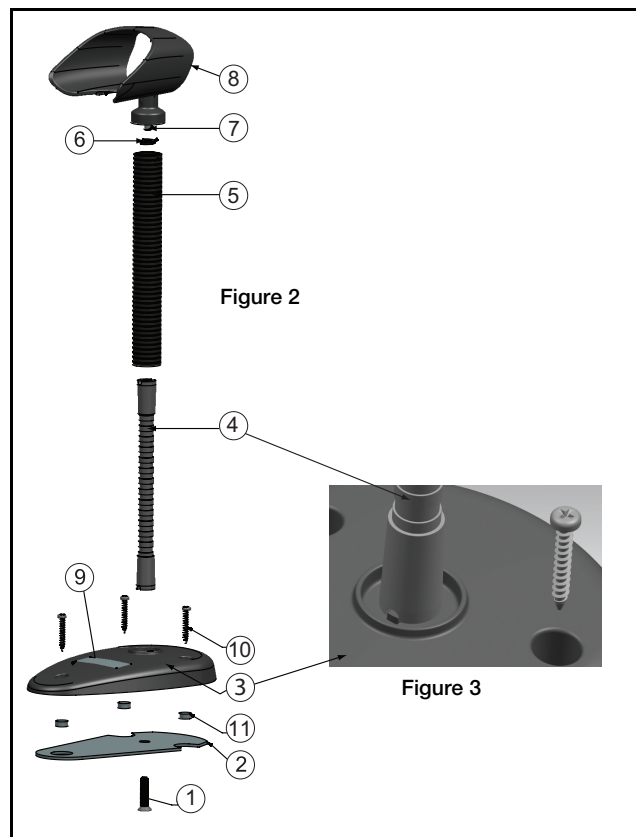

Figure 2
To assemble the components of the AUTOMATIC STAND, please refer to Figure 2:
2. Fix the base of AUTOMATIC STAND to the desired surface with the three screws provided (Figure 2 - 10).